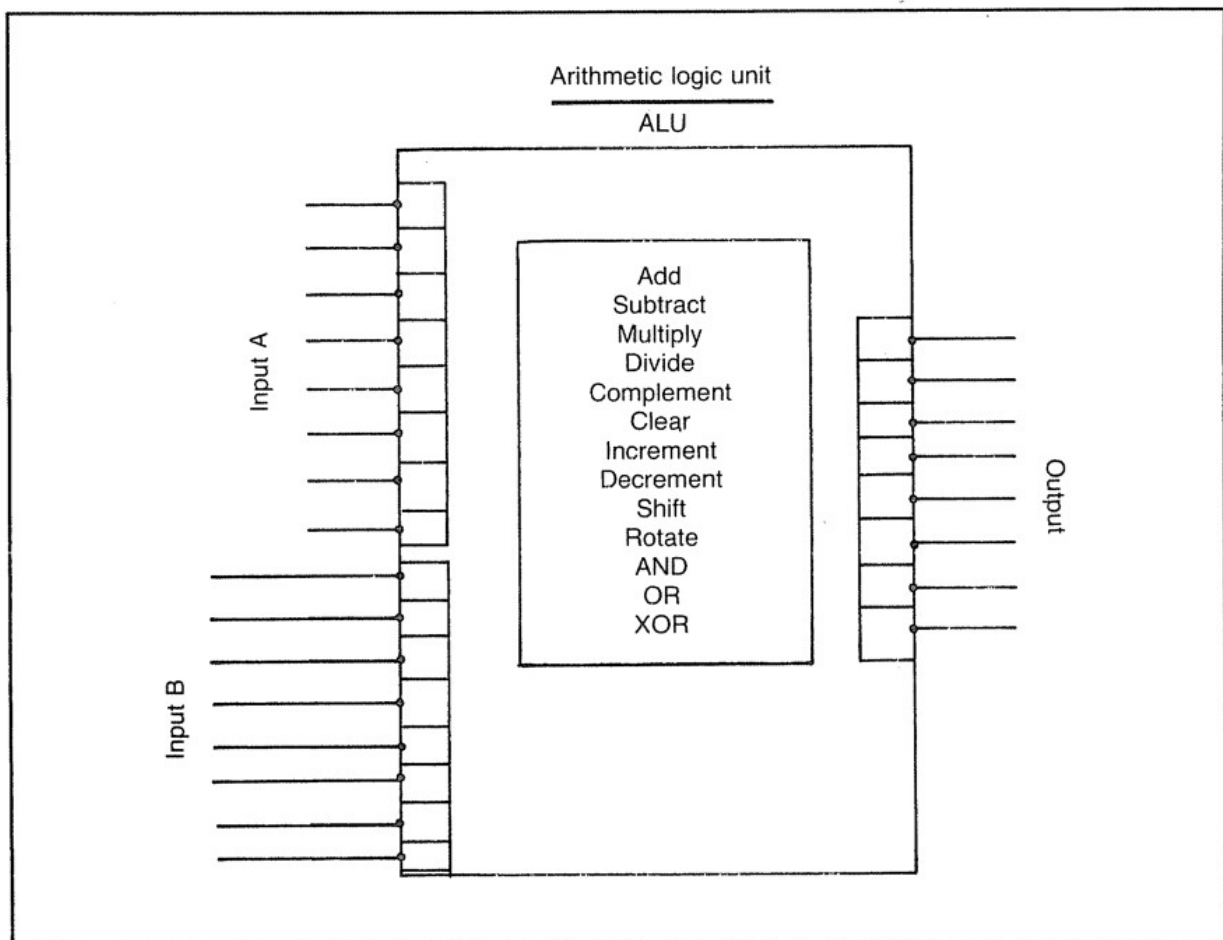

Fig. 11-4. The ALU is the very core of the computer. It does the jobs that are listed. These few jobs and the help of a memory is what computing is all about.
*Logic Unit*, abbreviated *ALU*. The ALU as its name implies is able to perform arithmetic and logic functions. Typically an ALU can have two inputs and one output. Consider the two inputs as eight bits each and the output as one byte too. The ALU can do the following things to the two inputs (Fig. 11-4).